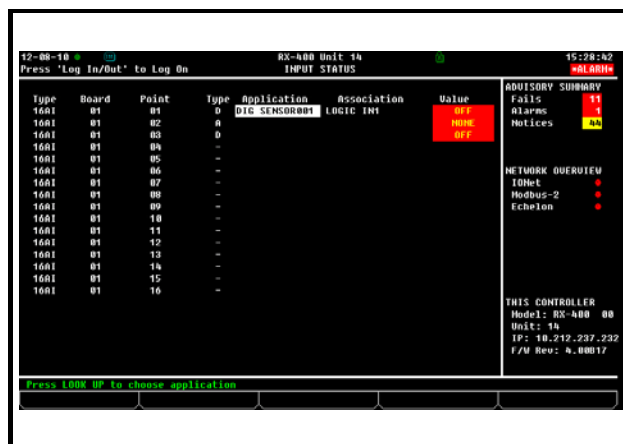

Figure 9-4 - Input Status Screen
Open the Analog Input screen by selecting an Analog (**A**) input from the Input Status screen Figure 9-4 and pressing **F1** (SETUP).
The Analog Input screen Figure 9-4 is where sensor types, units, and default values are specified for analog input points.
Open the Digital Input screen by selecting a Digital (D) input from the Input Status screen *Figure 9-4* and pressing **F1** (SETUP).